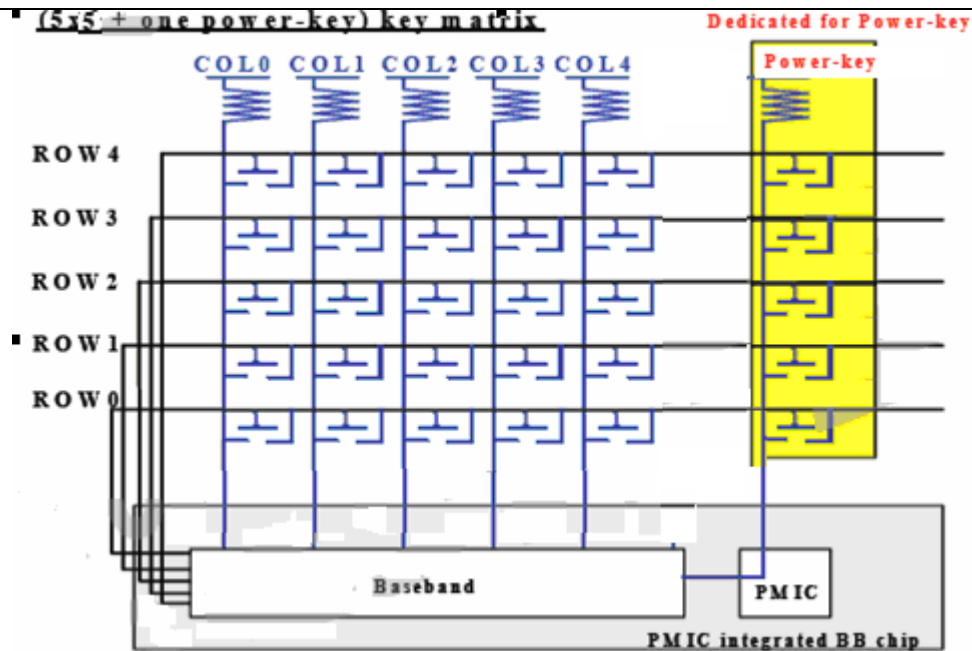

Figure5 The Typical Keypad Interface Circuit
The keypad can be divided into two parts: one is the keypad interface including 5 columns and 5 rows with one dedicated power-key, as shown in **Fig. 5**. the other is the key detection block which provides key pressed, key released and de-bounce mechanisms. Each time the key is pressed or released, i.e. something different in the 5 x 5 matrix or power-key, the key detection block senses the change and recognizes if a key has been pressed or released. This keypad can detect one or two key-pressed simultaneously with any combination. Since the key press detection depends on the HIGH or LOW level of the external keypad interface, if keys are pressed at the same time and there exists a key that is on the same column and the same row with the other keys, the pressed key cannot be correctly decoded. For example, if there are three key presses: key1 = (x1, y1), key2 = (x2, y2), and key3 = (x1, y2), then both key3 and key4 = (x2, y1) are detected, and therefore they cannot be distinguished correctly. Hence, the keypad can detect only one or two keys pressed simultaneously at any combination. More than two keys pressed simultaneously in a specific pattern retrieve the wrong information.